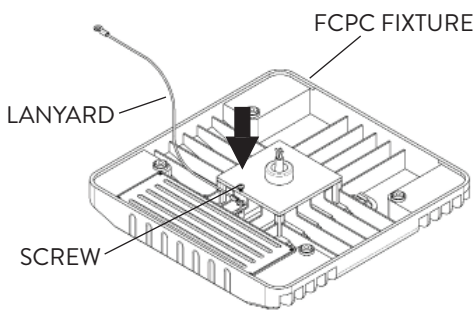
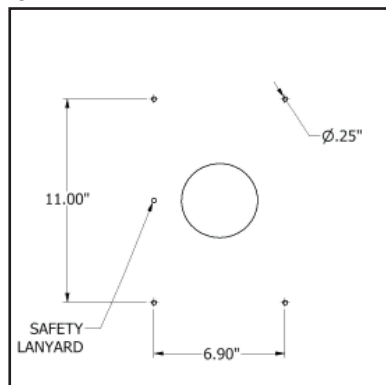
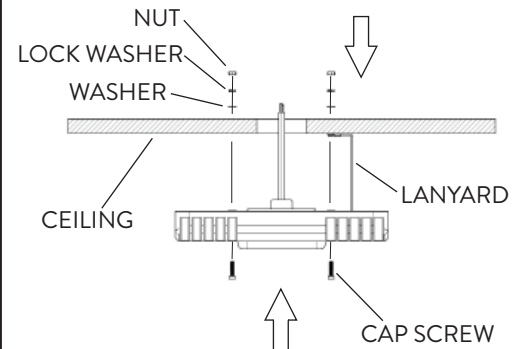

FIG. 1
FIG. 2
FIG. 3
- 1 The FCPC fixture can be mounted directly to a Surface/Ceiling. Install the Safety Lanyard with a Screw near the base of the FCPC (Fig. 1). Drill the hole pattern into the Surface/Ceiling to be mounted (Fig. 2). Attached the Lanyard to the Surface/Ceiling. Properly attached the wiring. Fasten the FCPC fixture to the Surface/Ceiling (Fig. 3).